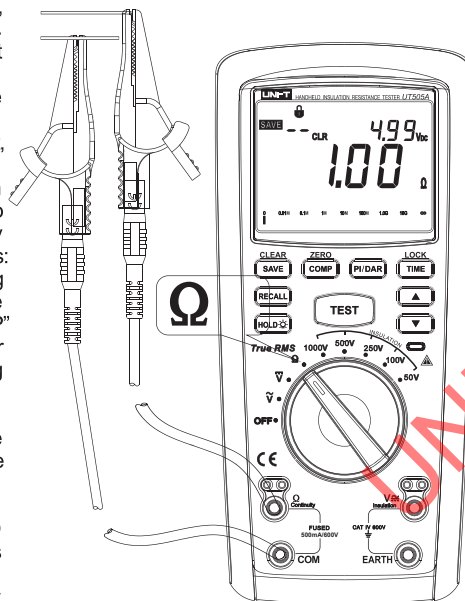

Figure 6
3. Measurement of low-resistance (See Figure 6)
- ① Insert the red test pen in “ Ω ” jack (red hole), with another end connected with the alligator clip; and